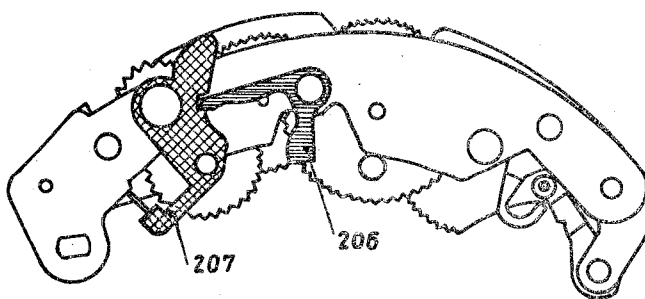

Fig. 8
a. The new selftimer of the PRONTOR-SVS differs from its fore-runner in that an additional lever is provided on the under side of the lower mounting plate. This lever, which is indicated by the reference numeral 206 in Fig. 8, is in positive engagement with the change-over bridge member 207.